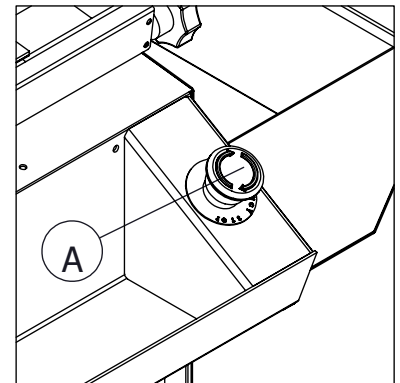

Figure.5
- Make sure that urgent stop button (Figure.5-A) is open.
- On each pressing of time entering button (Figure.5-C), 1. pressing time increases 1 second.